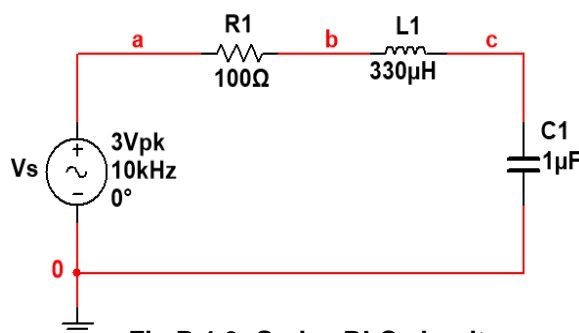

Fig.B.1.3: Series RLC circuit
13. Construct the circuit shown in Fig.B.1.3 on the bread board. Connect Channel 1 of the oscilloscope across the source  $V_S$  (positive red port to node 'a' and negative black port to node '0' i.e. ground). Connect the channel 2 at node 'c' (positive red port to node 'c' and negative black port to node '0' i.e. ground).
2. Draw the phasor diagrams for the circuits in Fig B.1.1, Fig B.1.2 and Fig B.1.3.